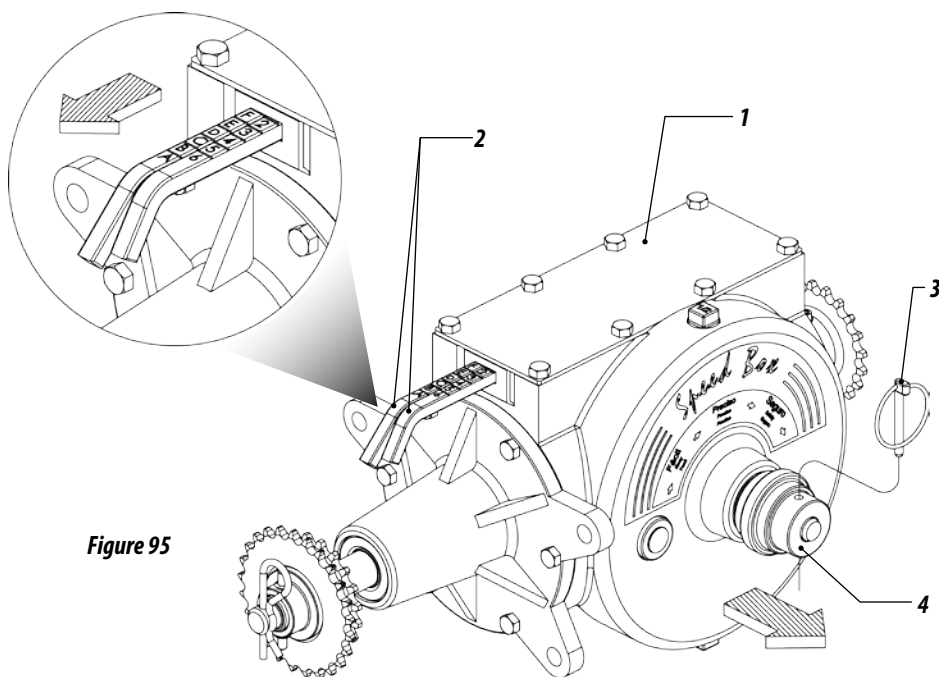

Figure 95
**Example: Combination A 6** in the position of detail **A** of **FIGURE 95**, indicates that the handle with letters should be in position "A" and the number handles must be in position "6".